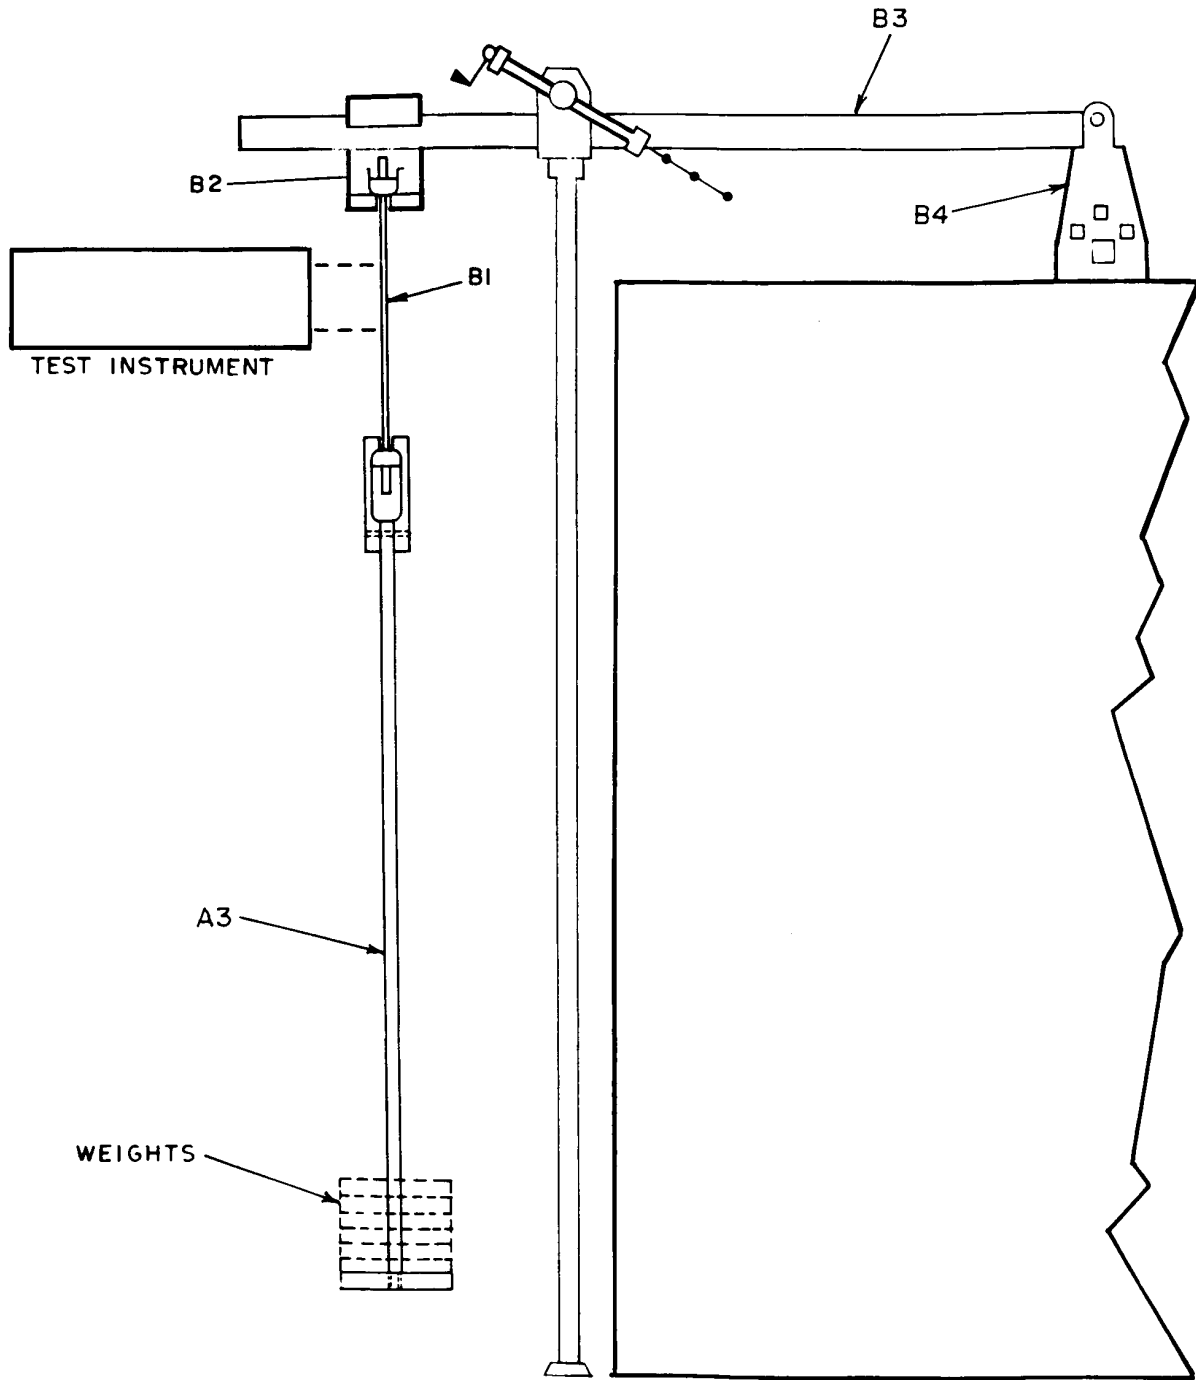

Figure 2. Equipment setup.
- i.** Set up equipment as shown in figure 2.